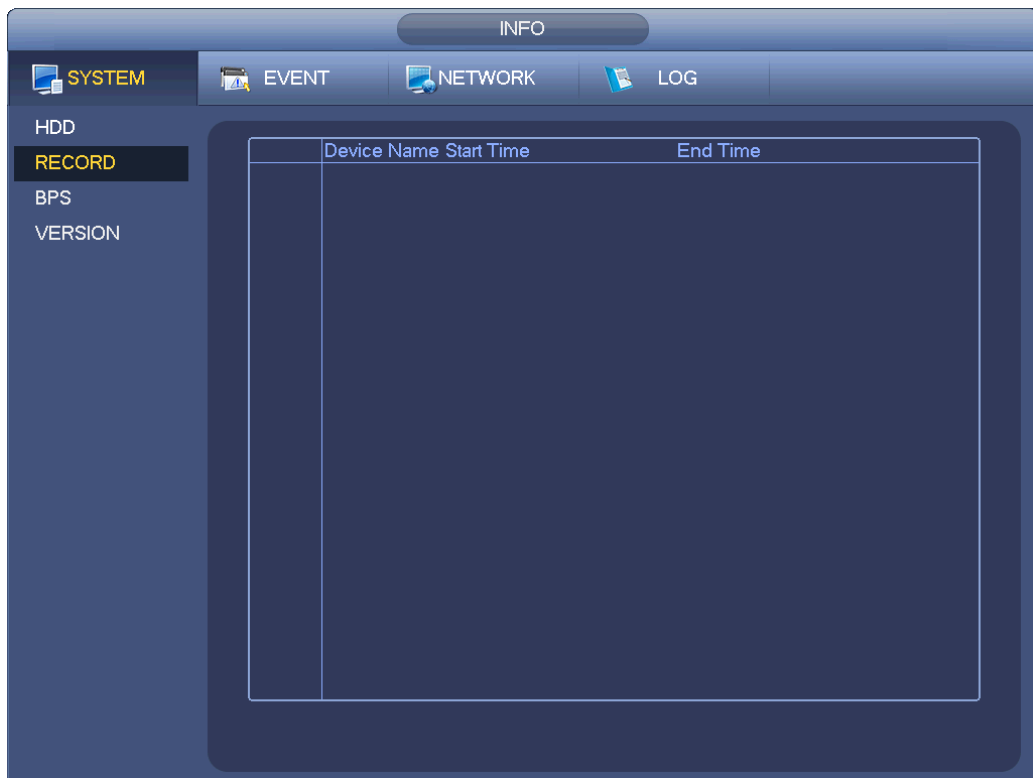

Figure 4-29
Step 4 Check the box to set alarm type. See Figure 4-29.